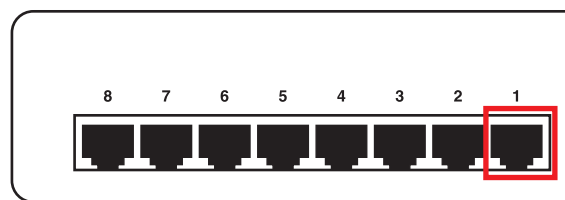

Figure 3-5. Plug the temperature sensor into Port 1.
1. Plug the sensor into one of the RJ-45 "intelligent sensor ports" on the rear panel of the unit. In this example, we will use Port 1. See Figure 3-5.